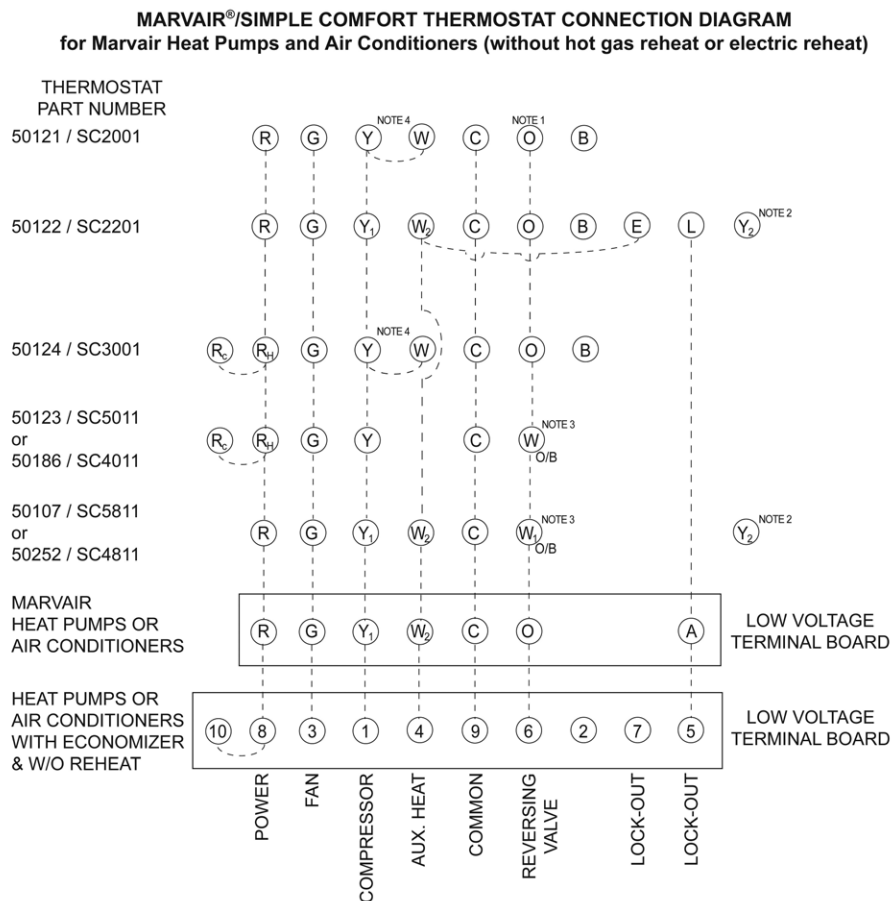

Figure 6b. Thermostat Connection Diagram
1. On single units, pull the low voltage wiring (e.g., 18 gauge 4-conductor Class 2 thermostat wire) from the ComPac® A/C into the thermostat / subbase assembly. See Figure 6b for connections to various thermostats.